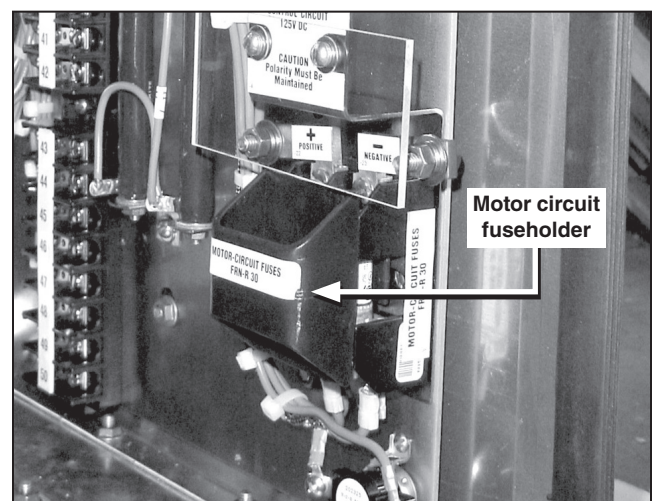

Figure 11. Make sure the motor circuit fuseholder is in place.
- STEP 4.** Make sure the two-pole pull-out fuseholder for the motor (and space heater, if furnished) is inserted. See Figure 11.